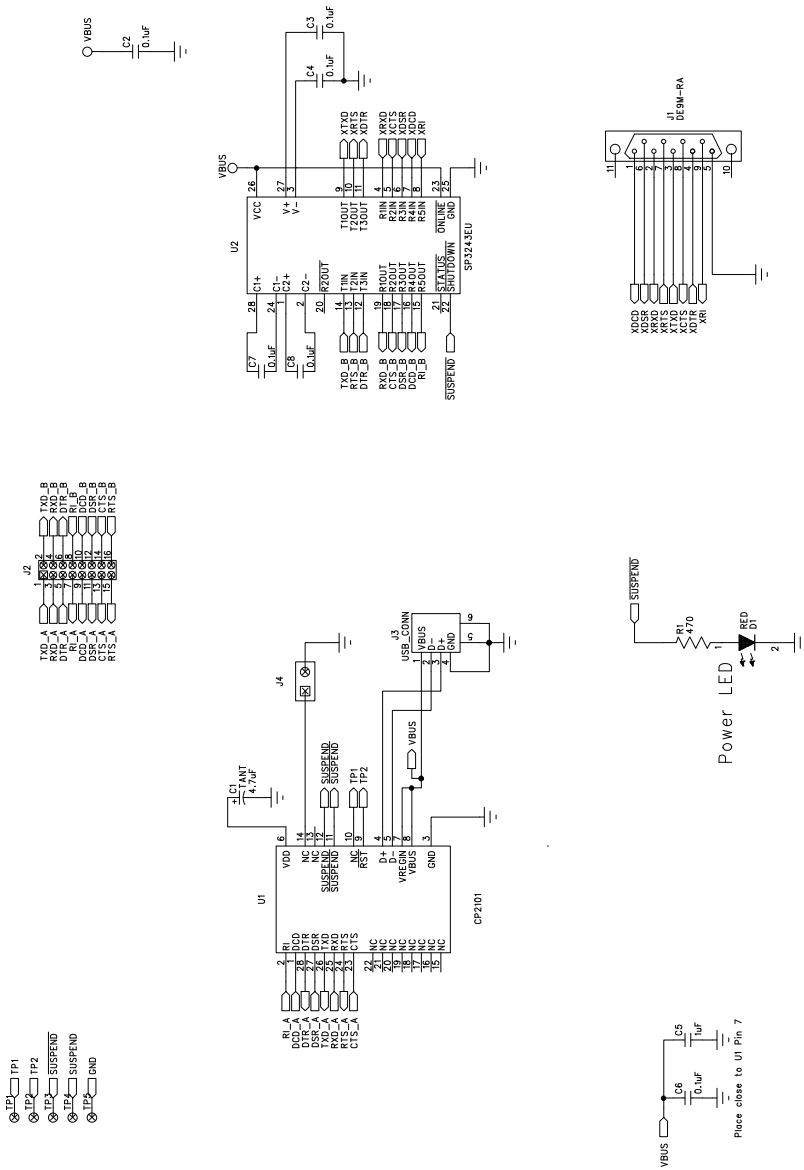

Figure 4. CP2101 Evaluation Board Schematic
- Corrected Figure numbering on Figure 4.